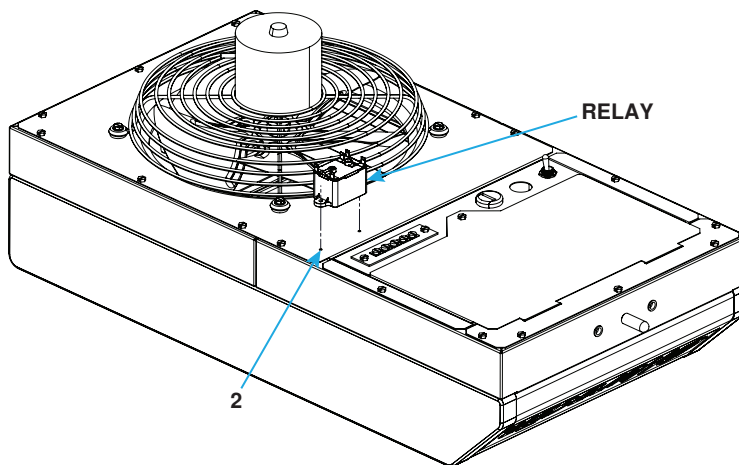

Figure 5. Relay Installation—Model H (Refer to Table 2)
- c. For destratification fan model H, disassemble relay assembly (1) by removing relay from bracket and secure relay as shown in Figure 5 using two screws (2). Bracket will not be used.